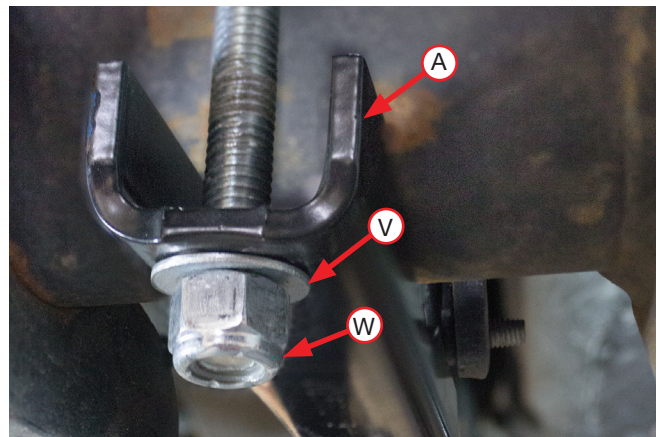

Fig. 24
If there is a sway bar, insert the carriage bolts through the Clamp Bar (A) as you set the assemblies into position over the axle (see Fig. 24).
- If not completed, set the lower clamp bars (A) over the carriage bolts located under the axle (Fig. 24). Attach with the 3/8" flat washers (V) and 3/8" nylon lock nuts (W). Evenly torque the lower clamp bar hardware to 16 lb.-ft. (22Nm). Finish tightening the U-bolt hardware previously snugged by torquing to 10 lb.-ft. (14Nm).